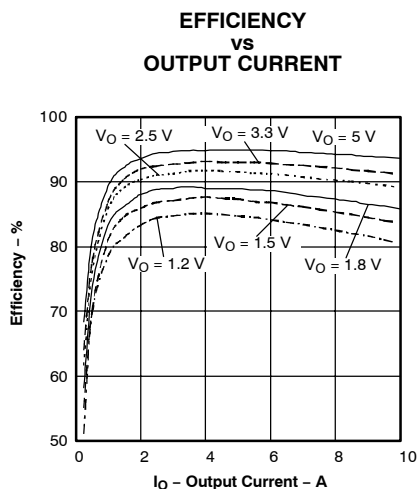
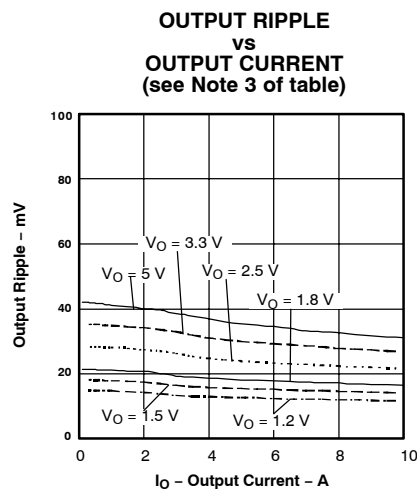
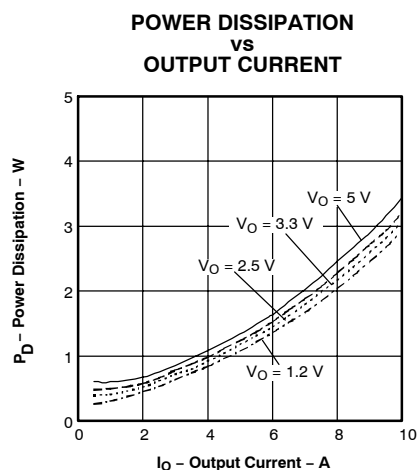

Figure 1.
Figure 2.
Figure 3.
- (1) Characteristic data has been developed from actual products tested at 25°C. This data is considered typical data for the Converter. Applies to Figure 1, Figure 2, and Figure 3.